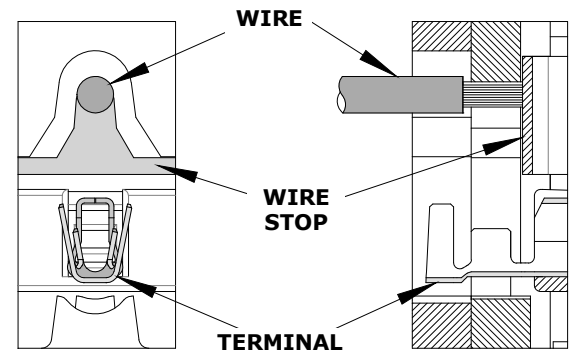

Figure 6
- On some large O.D. wires, it may not be possible to insert the wire with the tool partially closed. Those wires should be inserted with the hand tool in the open position. Insert the wire above the terminal in the punch and against the wire stop, and then close the tool. See Figure 6.